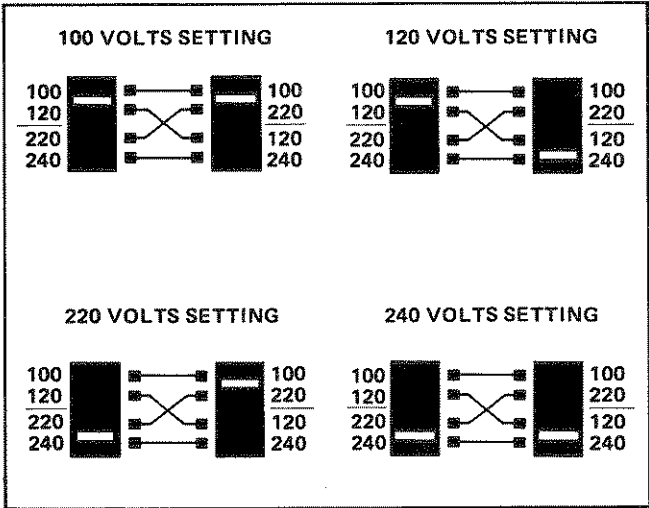

Figure 2-1. AC Voltage Selector Switch Positions
- 2. See Figure 2-1. Set rear-panel ac power level switches to select line voltage (100V, 120V, 220V, 240V) closest to voltage measured in step 1. Line voltage must be within +5% or -10% of voltage setting. If line voltage is not within limits, an autotransformer must be connected between ac source and HP 85650A. Table 2-2 shows the styles of plugs available on ac power cables supplied with HP instruments.